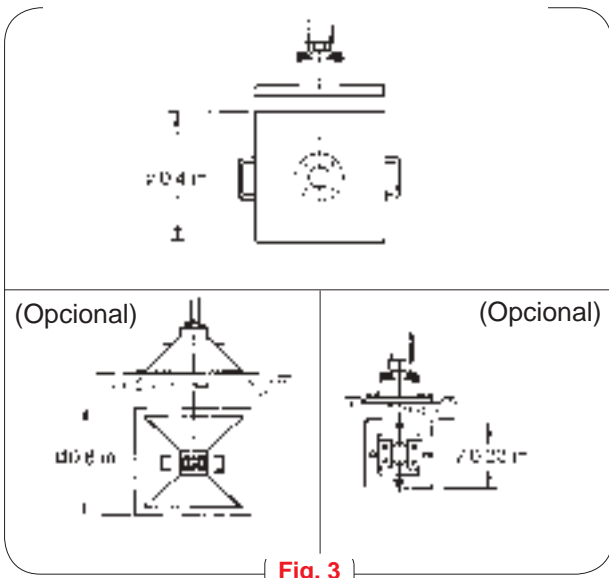

**Fig. 1**
- 1 Rest base on two ends. (Fig. 1).